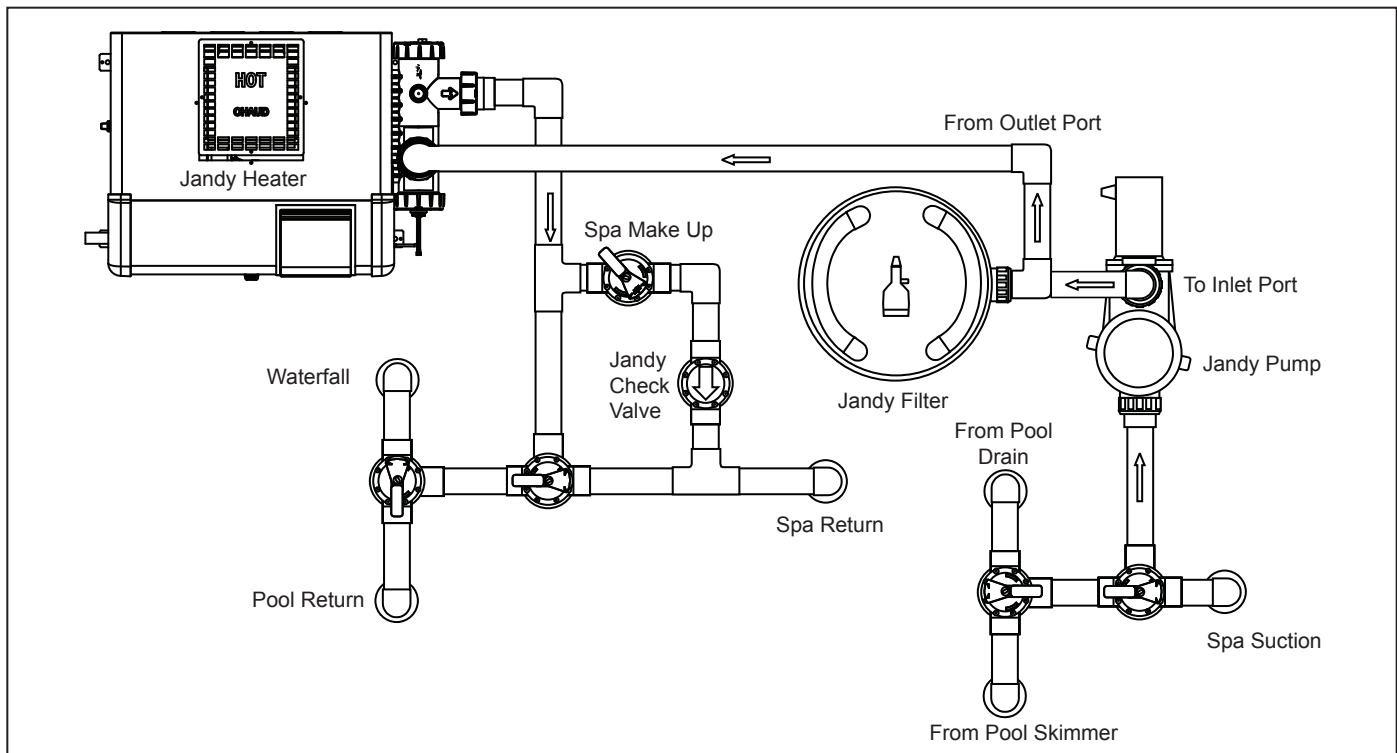

Figure 5. CL Cartridge Filter Plumbing for Pool/Spa Combination
3. Place the filter on the concrete pad, lined up with the inlet/outlet pipes (see Figures 5 and 5A).